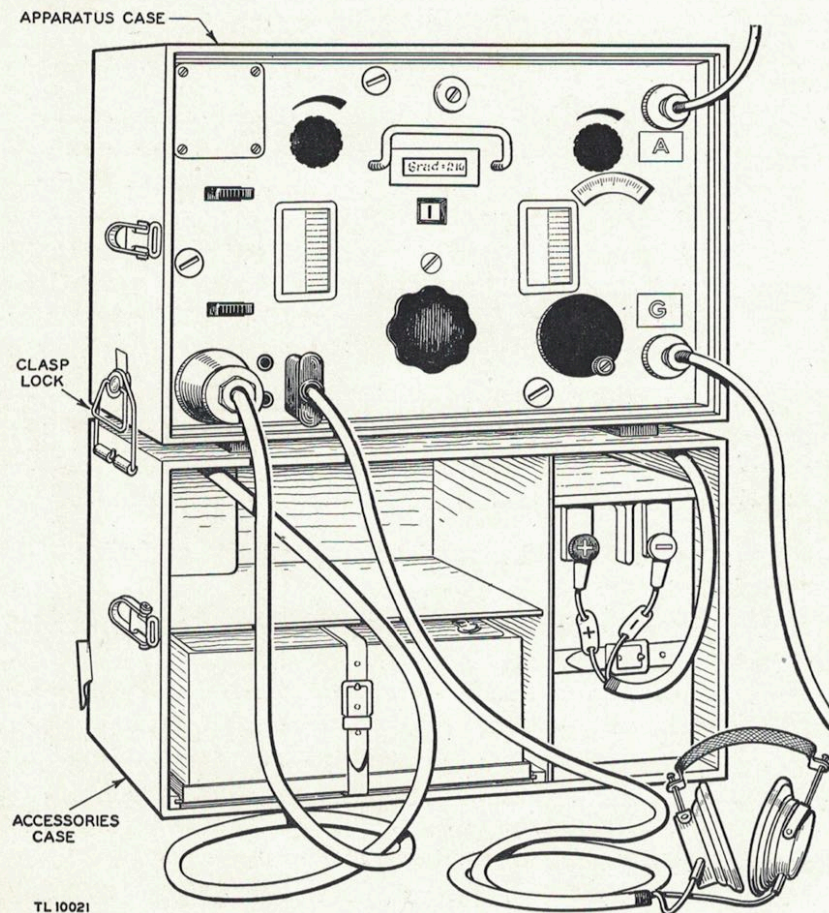

Figure 5. German radio set Torn. E. b., set up for operation.
a. Assembly. Place the apparatus case on top of the accessories case, as shown in figure 5. These sections are secured together by